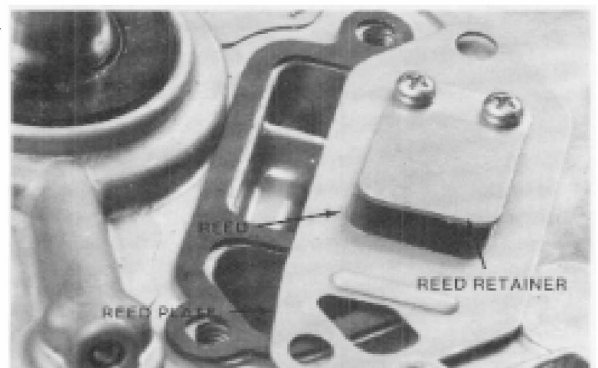

Figure 4-9
3. The reed retainer and reed must be mounted "up" as seen in Fig. 4-9.